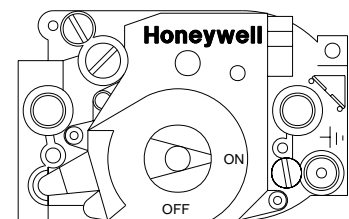

Figure 1. Gas control knob shown in "ON" position.
7. Wait five (5) minutes to clear out any gas. If you then smell gas, **STOP!** Follow "B" in the safety information above. If you don't smell gas, go to the next step.
8. Turn knob on gas control counterclockwise  to "ON"; see Figure 1.